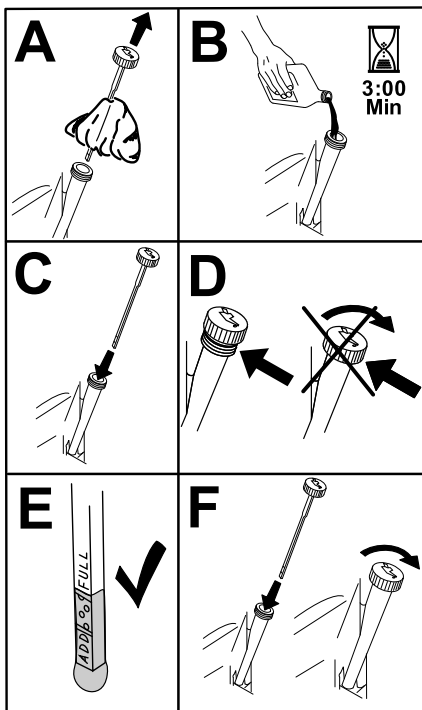

Figure 53
5. Slowly pour approximately 80% of the specified oil into the filler tube and slowly add the additional oil to bring it to the **Full** mark (Figure 53).